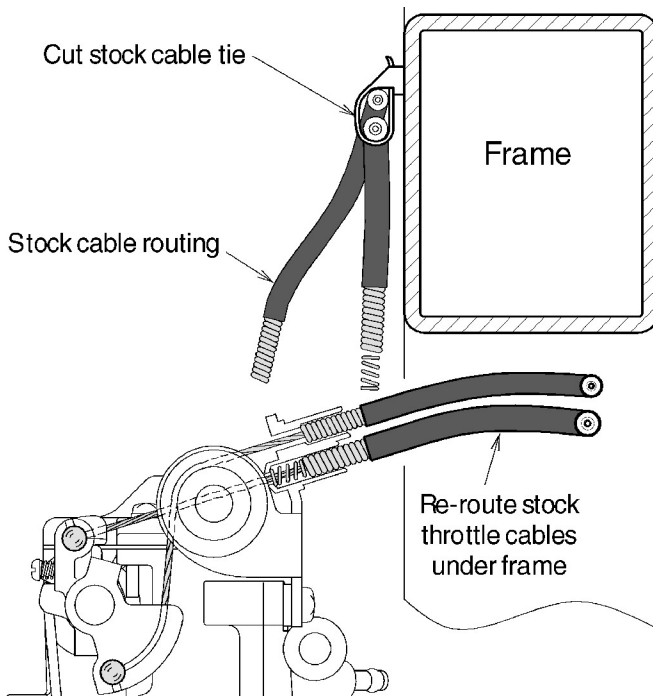

Figure 2
- A. The HSR carburetor uses the stock throttle cables. However, new cable routing is required to prevent cable binding. To re-route the cables you must elevate the rear of the tank. Cut the stock cable tie from the frame, located above the front cylinder. Some models may use sheet metal clips; if so, remove the cables from the clip. Re-route the cables under the frame (Figure 2).